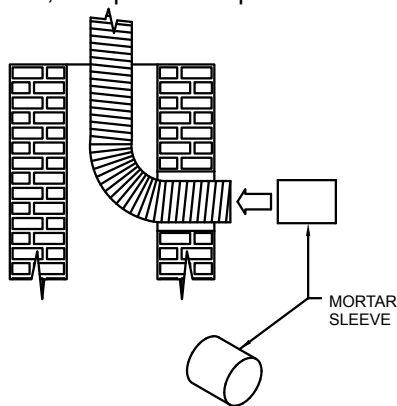

Figure 7
Step 6. Slide the Mortar Sleeve over the DuraFlex Liner, until the Mortar Sleeve is flush with the wall of the chimney, as shown in **Figure 7** Once the Mortar Sleeve is in place, the